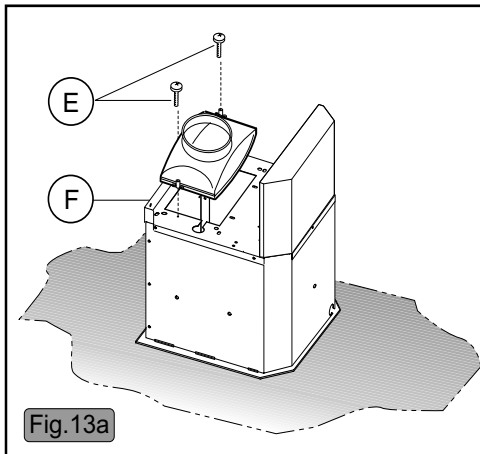

Fig.13a
- In the case that your hood is indicated on the **fig. 13a** mount the connecting flange **F** in the upper part of the hood's suction unit using the 2 screws **E**.